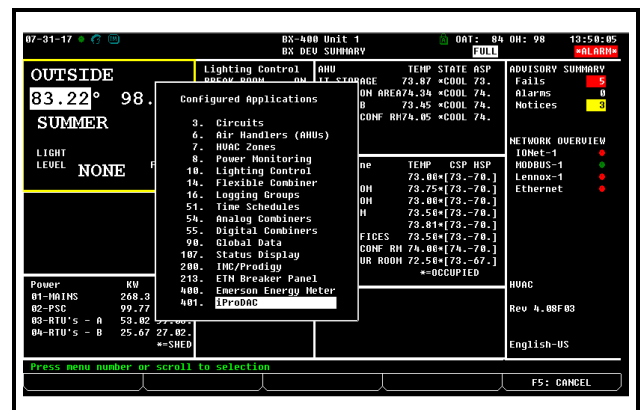

Figure 7-6 - E2 Configured Applications - Select iProDAC
1. From the E2 Main Menu  select  - Configured Applications (Figure 7-6).